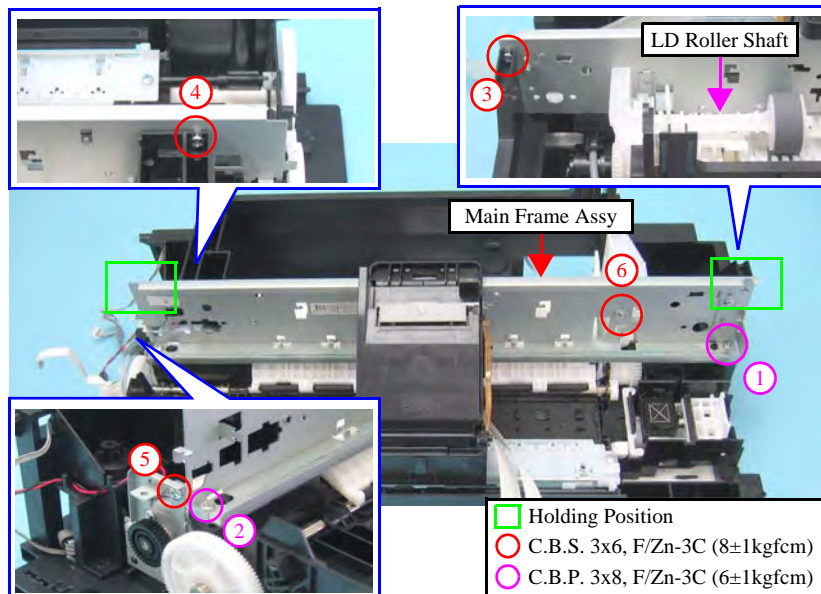

Figure 4-73. Removing the Main Frame Assy
- Tighten the screws in the order given in Figure 4-73.